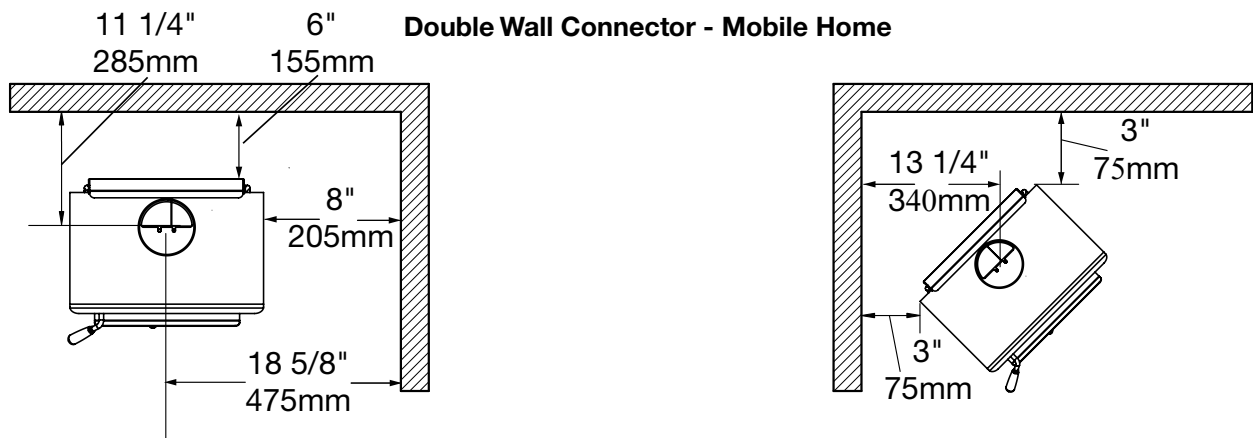

Figure 13: TN10 Mobile home clearances.
2. Mobile Home installation must use listed double-wall connector, For installation in a mobile home, see clearances in Figure 13 on page 21.